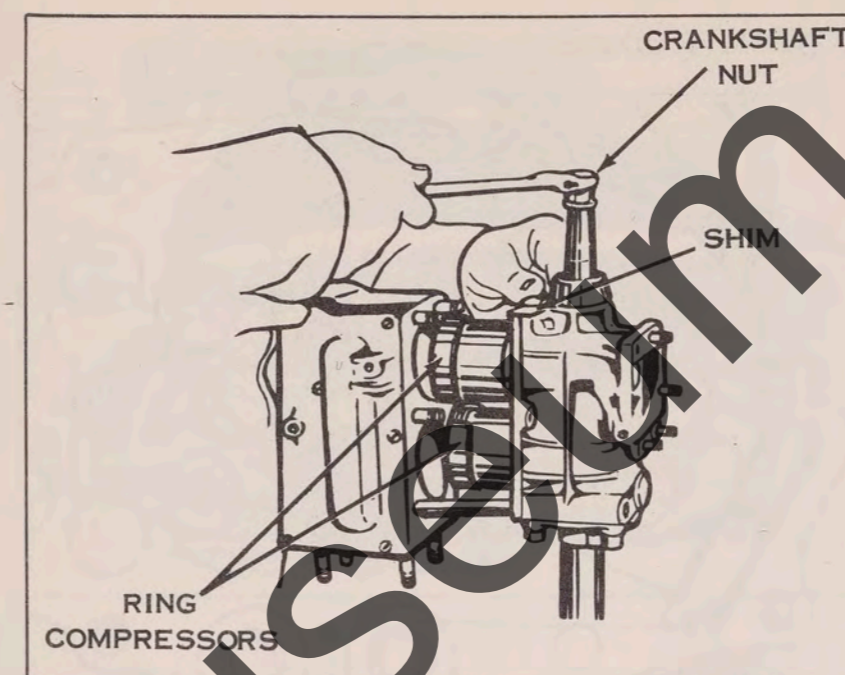

Figure 5-25. Assembling Crankcase to Cylinder (Step 1)
6. Place a piece of thin (1/32 - 1/16) shim stock on top bolt hole of crankcase so that cylinder stud does not enter in crankcase hole. (See figure 5-25). (This enables crankshaft to be rotated with an adjustable end wrench on the crankshaft nut after rings have entered cylinder, in order to remove the ring compressors. Unnecessary on 3 H.P. Models.)